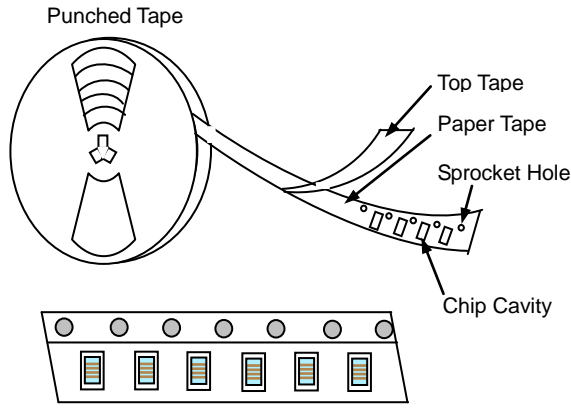

Fig. 7.1-1
- a. Tape carrier packaging are specified in attached figure **Fig.7.1-1~4**